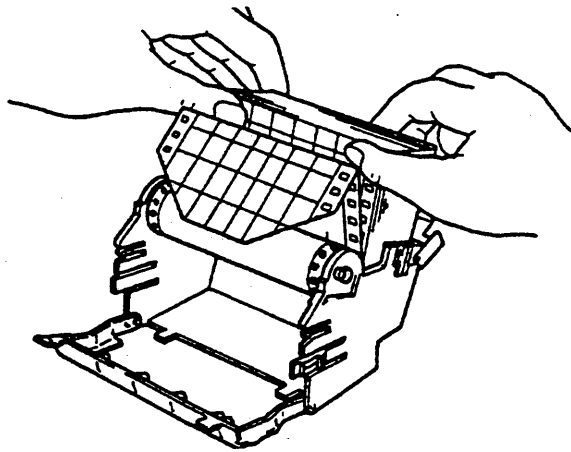

Figure 3-4. Loading the Chart-3
7. Load the chart paper into the top hopper, making sure that the sprocket teeth of the chart drive are properly engaged in the chart paper perforation holes. Take care not to insert the paper backwards (see Figure 3-4).